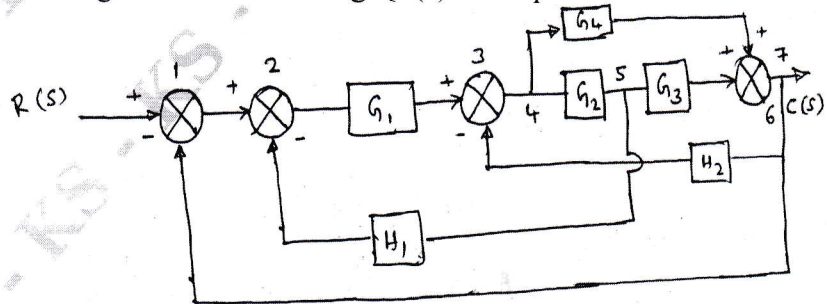

Fig.Q5(a)
- 5 a. Reduce the block diagram as shown in Fig.Q5(a) to simple form and find transfer function: